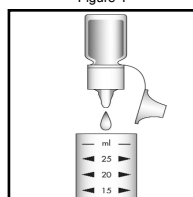

Figure 2
2. Add 2 drops of A-3900 Activator Solution (fig 2). Stir to mix the contents of the cup.